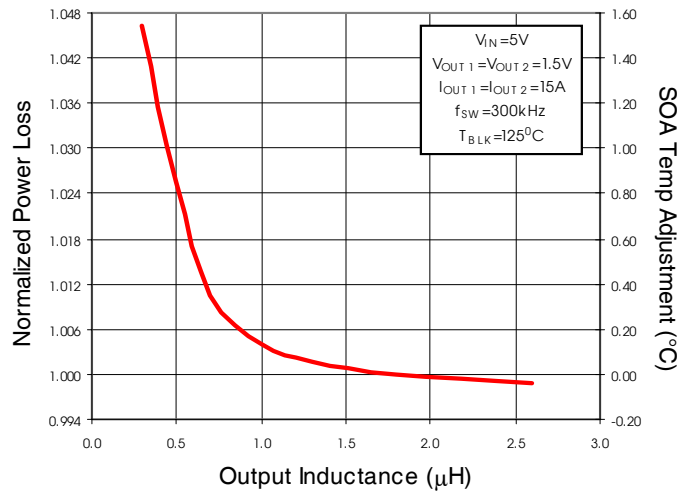

Fig. 7: Normalized Power Loss vs. Inductance
(Fig. 7) Normalized power loss for inductor value ≈ 1.0
- (Fig. 7) Normalized power loss for inductor value ≈ 1.0
- (Fig. 7) Normalized SOA Temperature for inductor value $\approx 0^{\circ}C$